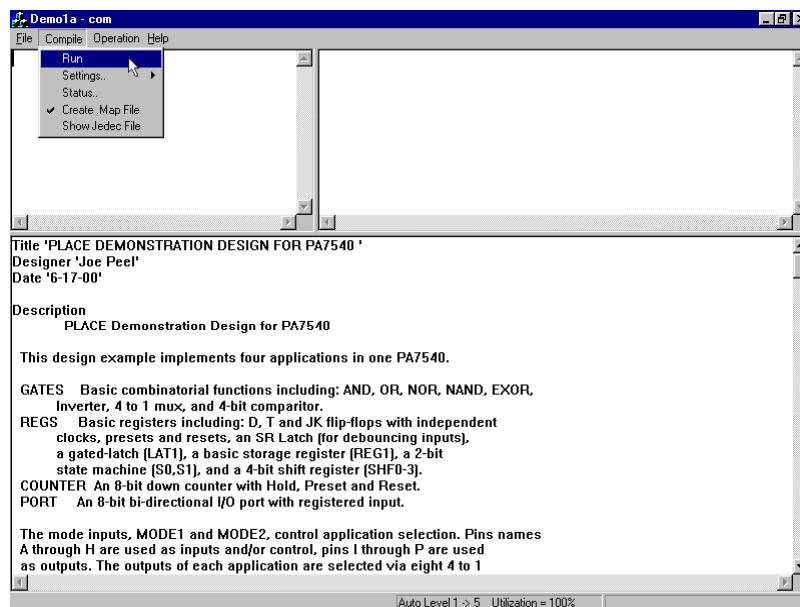

Figure 3-32 Compile Menu
- **The default option for the reduction level selection is "Auto 1-5"**. The "Auto" reduction levels refer to the automatic increments of the reduction levels. For instance, the "Auto 1-5" means that the optimization process starts with reduction level 1. If the design does not fit the device after the completion of level 1, then it proceeds to level 2. If the design still does not fit the device, it proceeds to level 3 and so on until a fit occurs. Once the design achieves a device fit, the reduction level will be displayed in the Compile window (Figure 3-32).